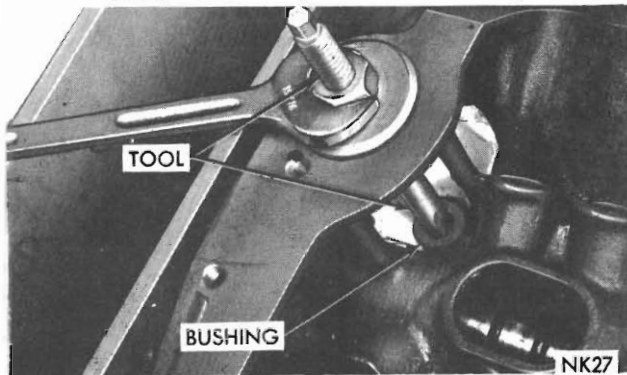

Fig. 26 - Removing distributor drive shaft bushing
- (1) Insert Tool E9C65G into old bushing and thread down until a tight fit is obtained (Fig. 26).
- (2) Hold Puller screw and tighten Puller nut until bushing is removed.